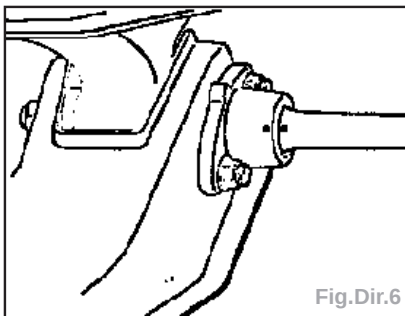

Fig.Dir.6
- la barre de torsion (Fig.Dir.6),